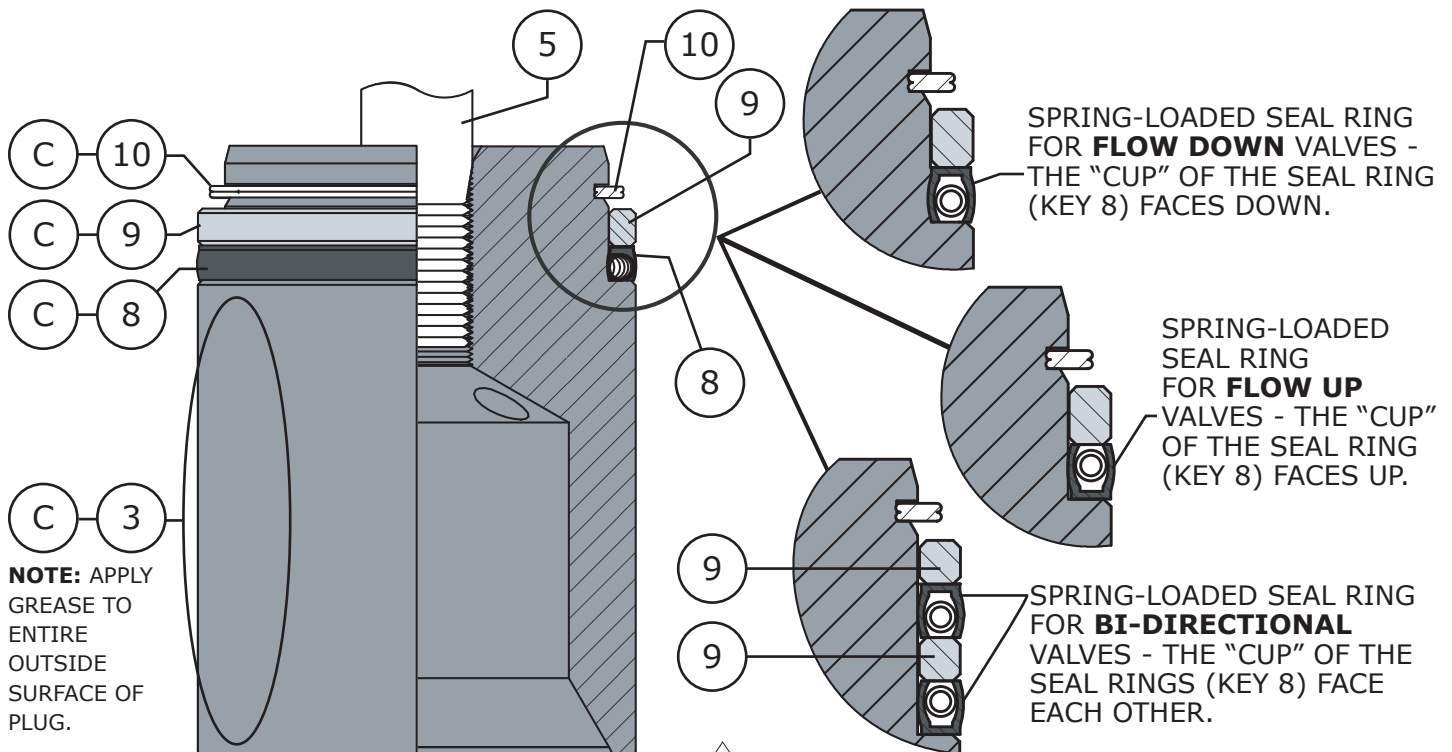

Figure 18 Three-Piece Plug Seal Assembly (Model 360 Only)
- 2 Install the seal ring (Key 8) onto the valve plug (Key 3), refer to Figure 18 for proper seal ring orientation. **NOTE:** 8 inch valves are technically one-piece plug seals, 8 inch valve assemblies use a seal ring only and do not make use of a backup ring (Key 9) or retaining ring (Key 10).